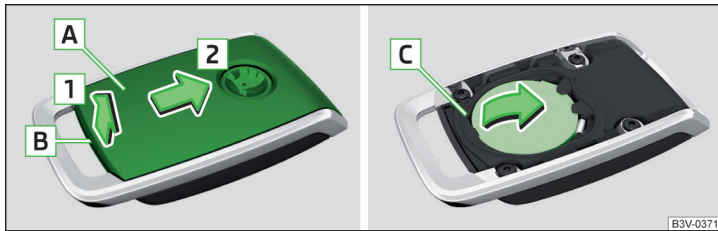

Fig. 343 Open the cover/remove the battery
- › Use a thin screwdriver to remove the cover **A** in the area **B** » Fig. 343.